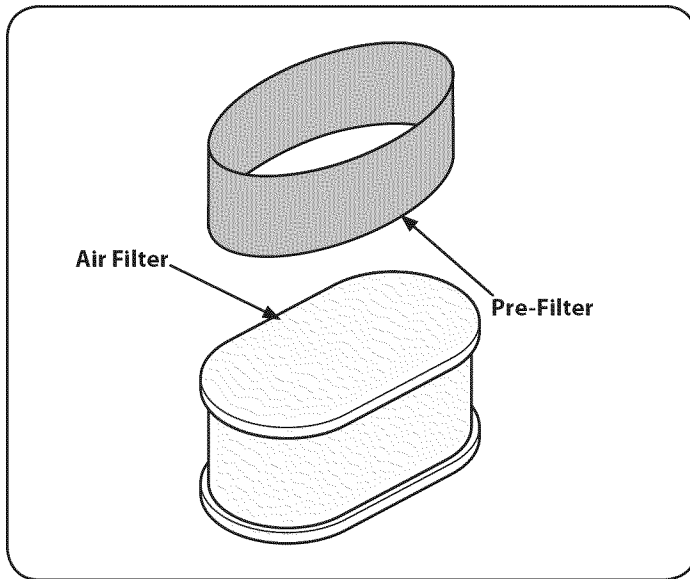

Figure 25
- Remove the foam pre-filter from around the paper air filter. See Fig. 25. Replace paper element when dirty or damaged. Clean foam element or replace when damaged.